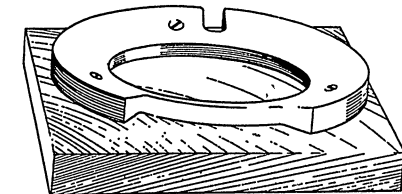

Fig. 3. Valve body support ST.5021
6. (1) Mount the bottom chamber on the valve body support ST.5021 (fig. 3). This fixture is a hardwood block with a shaped face to accommodate the body casting. The casting fits on the fixture with the discharge valve seating downwards, and is held firmly whilst the various components are dismantled from it.